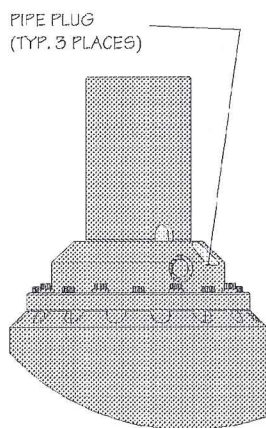

Figure 23. Detail of the pipe plug location
1. Remove the three pipe plugs in the top of the Running Tool. Refer to **Figure 23**.